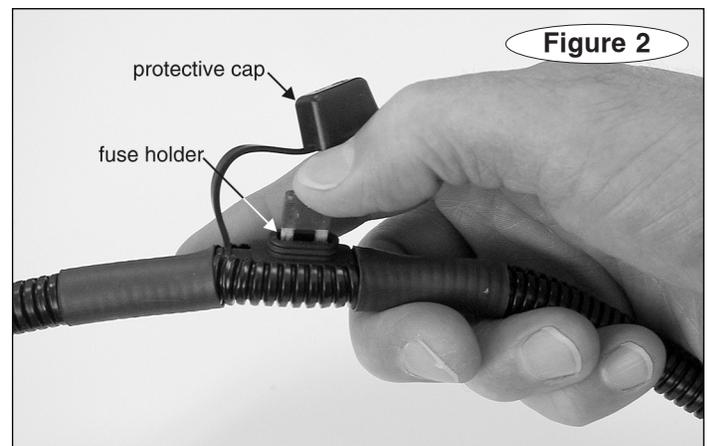

Figure 2
16. **IMPORTANT** – Install the fuse you removed from the towed vehicle into the FuseMaster holder (Figure 2); confirm that the fuse is fully seated. Replace the protective cap (Figure 2).